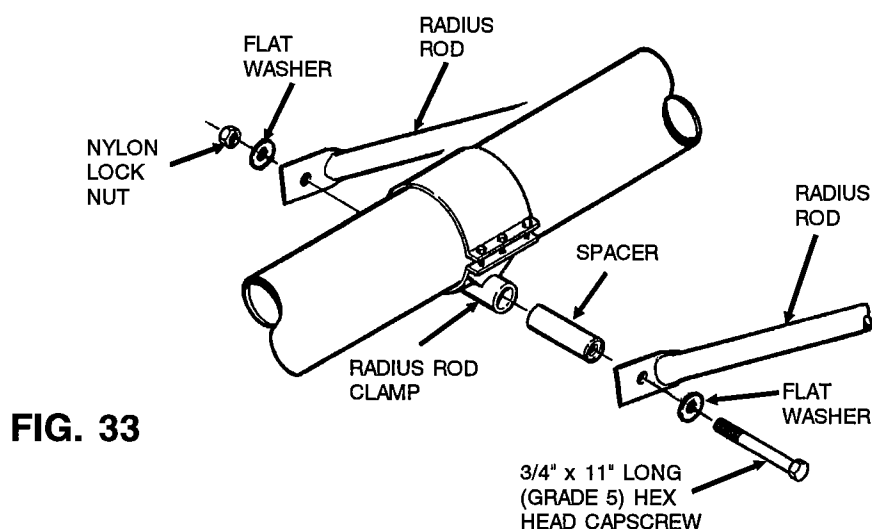

FIG. 33
- Step 28. Insert the pivot pipe spacer into the pipe on the radius rod clamp. Then insert a 3/4" x 11" long (grade 5) hex head capscrew through a flat washer, one radius rod, the spacer and then the other radius rod and another flat washer and a nylon locknut. See Fig. 33.